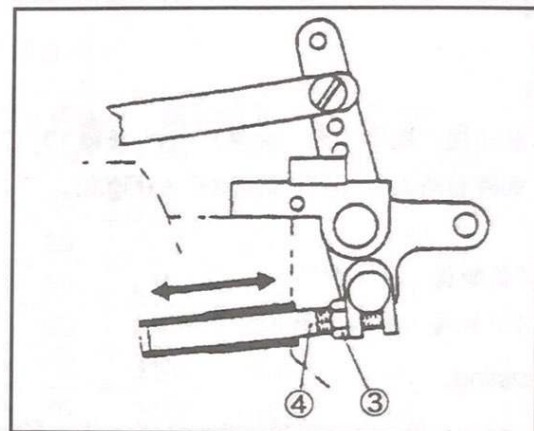

Fig.8
1. 放鬆螺母③。(Fig.8)
2. 移動抬壓腳停止插銷④或再調整外面間隙。
1. Loosen the lock nut ③ . (Fig.8)
2. Move the presser foot lifter stop plunger ④ in or out to adjust the clearance.